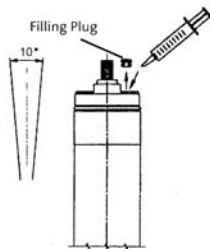

Figure 3
4. Inject motor liquid into the motor with a filling syringe or similar tool, see Figure 3.